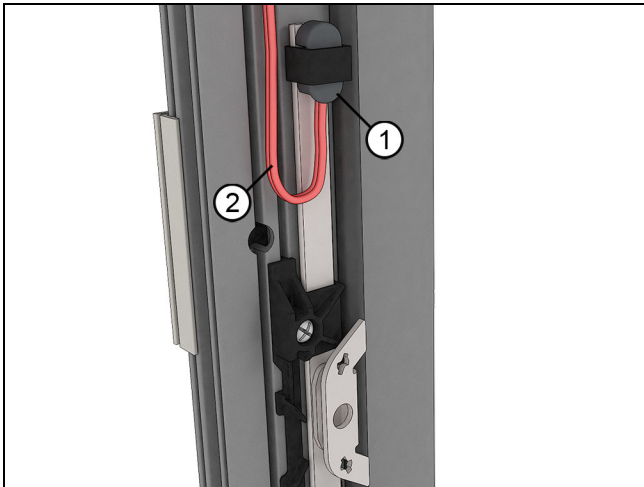

Figure 36
1. One sensor is embedded in the frame, behind the locking jamb cover. It is attached to the top of the tie bar on the locking jamb. On Awning, the sensor will always be located on the right jamb tie bar (as seen from the interior). See Figure 36.